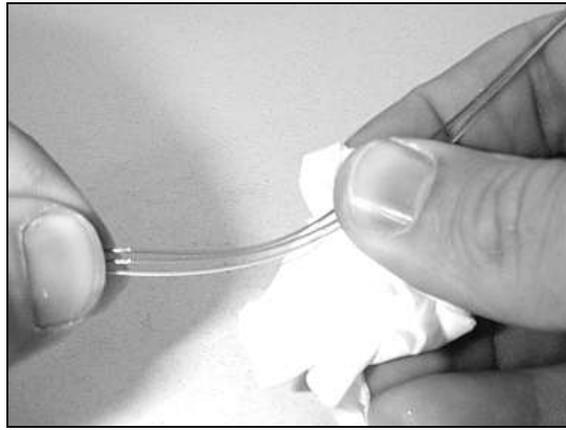

Figure 20 - Clean the optical fibers.
4.27 Clean the exposed fibers with a lint free wipe (Figure 20) and fasten the tube(s) to their corresponding splice organizing tray.